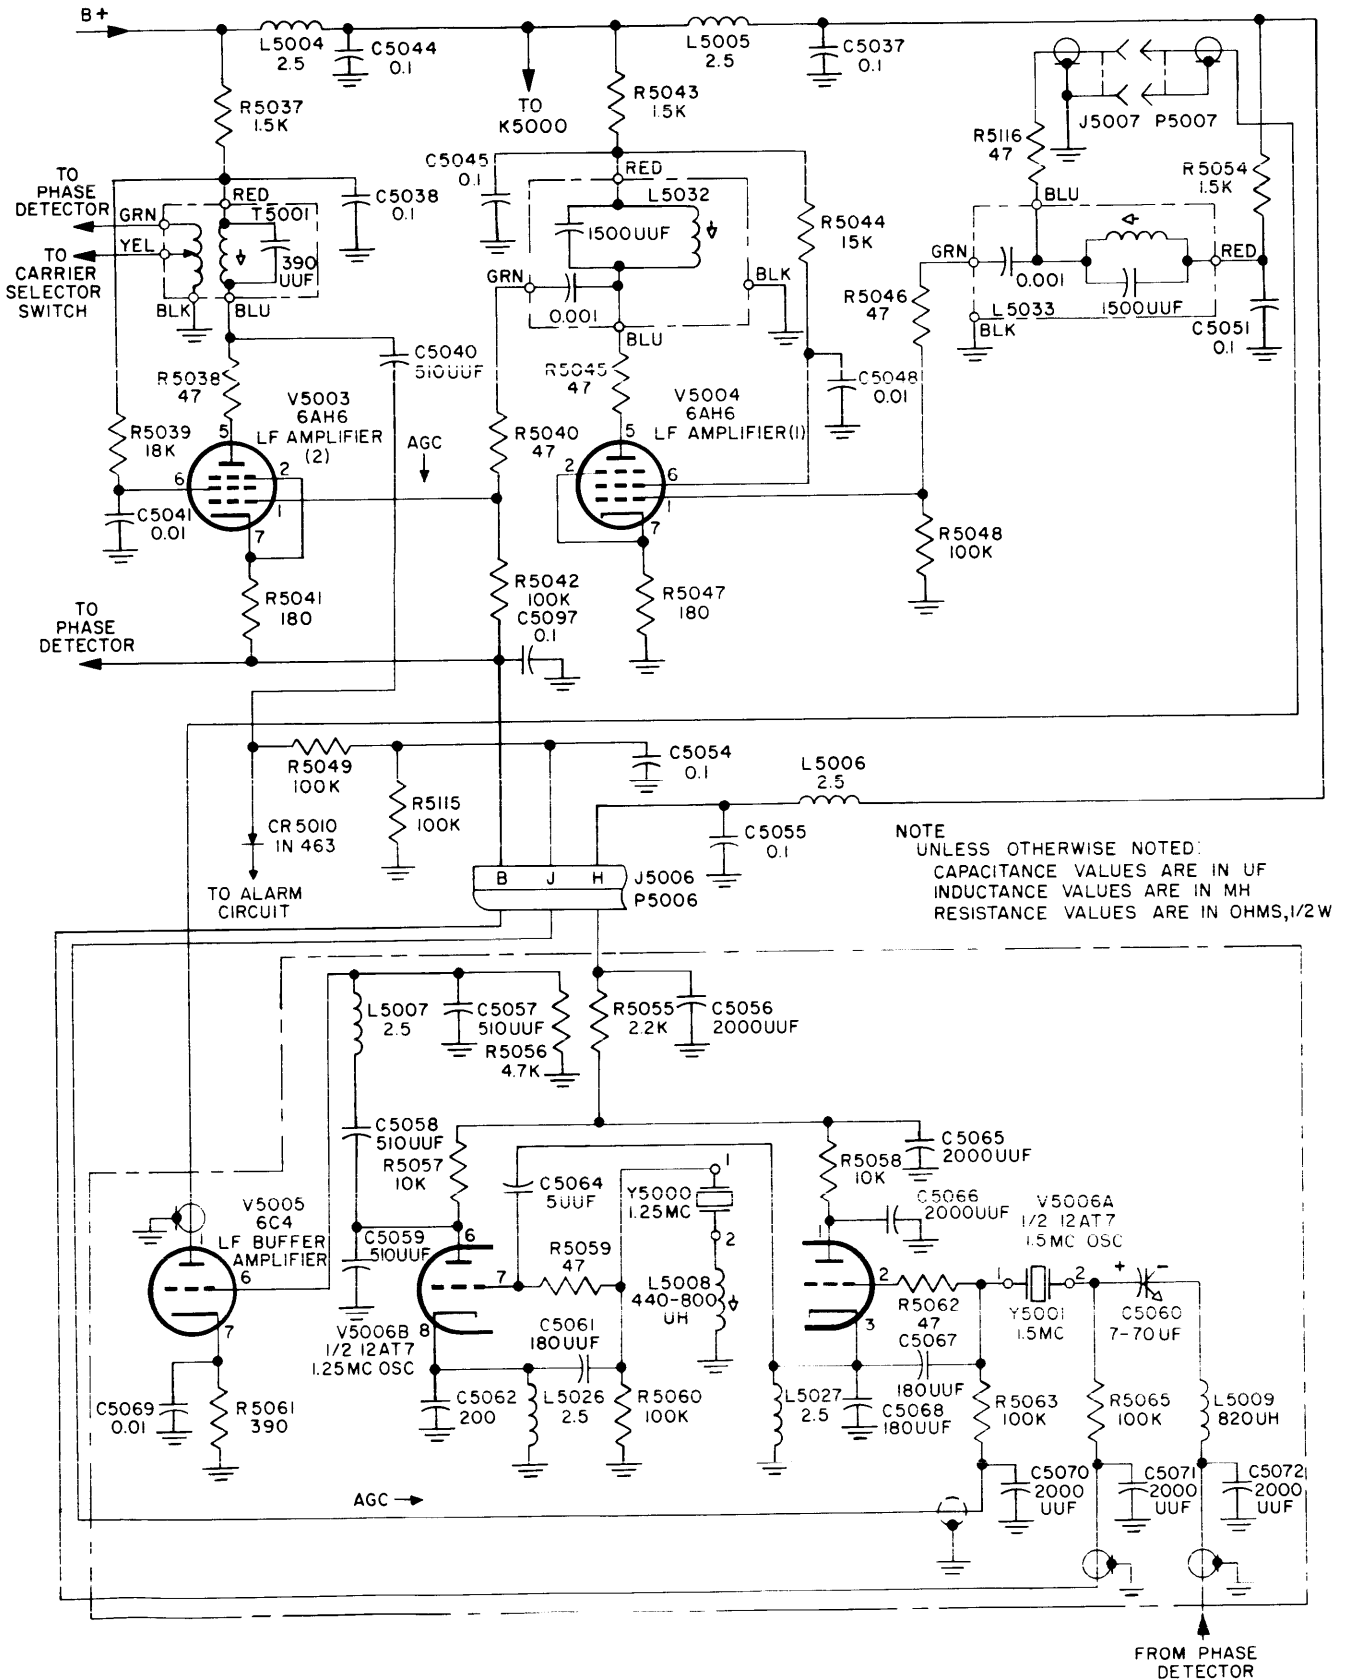

Figure 4-4. Product Detector Oscillator, Simplified Schematic Diagram
c. **PRODUCT DETECTOR OSCILLATOR.** The product detector oscillator and its buffer amplifier and associated circuitry are contained in an oven to maintain temperature stability (figure 4-4). V5006 serves as two oscillators and a mixer. V5006B is the 1.25-mc oscillator. The four oscillators in the AFC unit are modified Colpitts-type circuits. The oscillators each utilize a grounded plate and feedback from ground to cathode and from cathode to grid. The grid circuit is crystal controlled. The crystal operates in the circuit as an inductor. L5008 provides series compensation for the crystal so that frequency adjustment is possible. L5008 is initially adjusted for an output of exactly 250 kc when V5006A is held to the 2.7-volt reference from the phase detector for center frequency. V5006A has the same type of circuit as V5006B with the exception that series compensation is provided by a voltage variable capacitor (C5060). The voltage variable capacitor (varicap) is a silicon p-n junction device which changes circuit capacitance by bias voltage con-